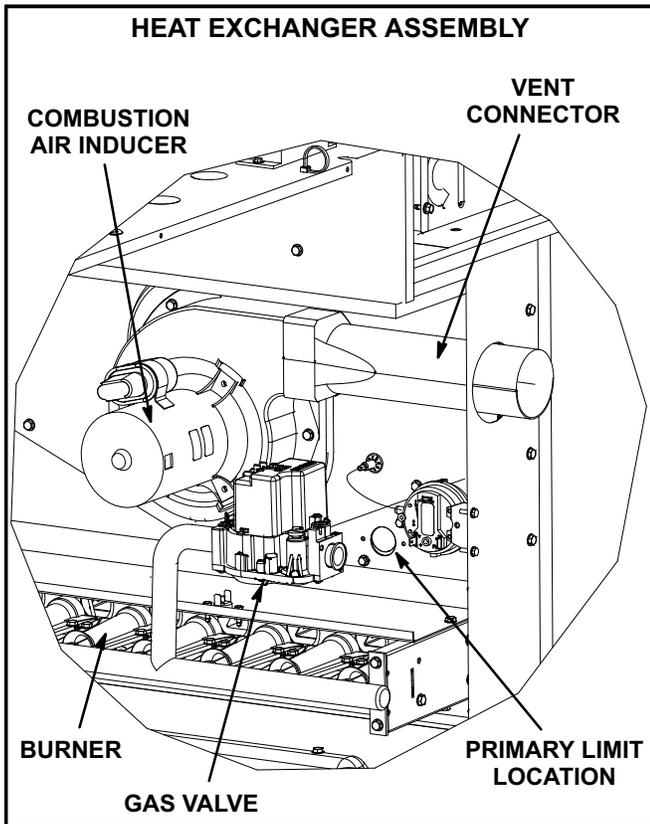

FIGURE 24
Limit controls are factory-set and are not adjustable. The primary limit is located to the right of the combustion air inducer. See figure 24.
- Remove and retain screws securing combustion air inducer to flue box. Remove vent connector. See figure 24.